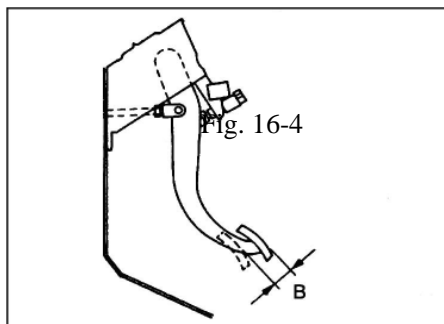

Fig. 16-4
- ④ Reassembly the carpet and other goods under the brake pedal.
- (2) Inspection brake pedal clearance (see Fig. 16-4)
- ① With the engine stopped ,depress the brake pedal two or three times .After eliminating the vacuum in the power brake booster, press the pedal down by fingers and confirm that the amount of movement before resistance is met (the free play) is within the standard value range.